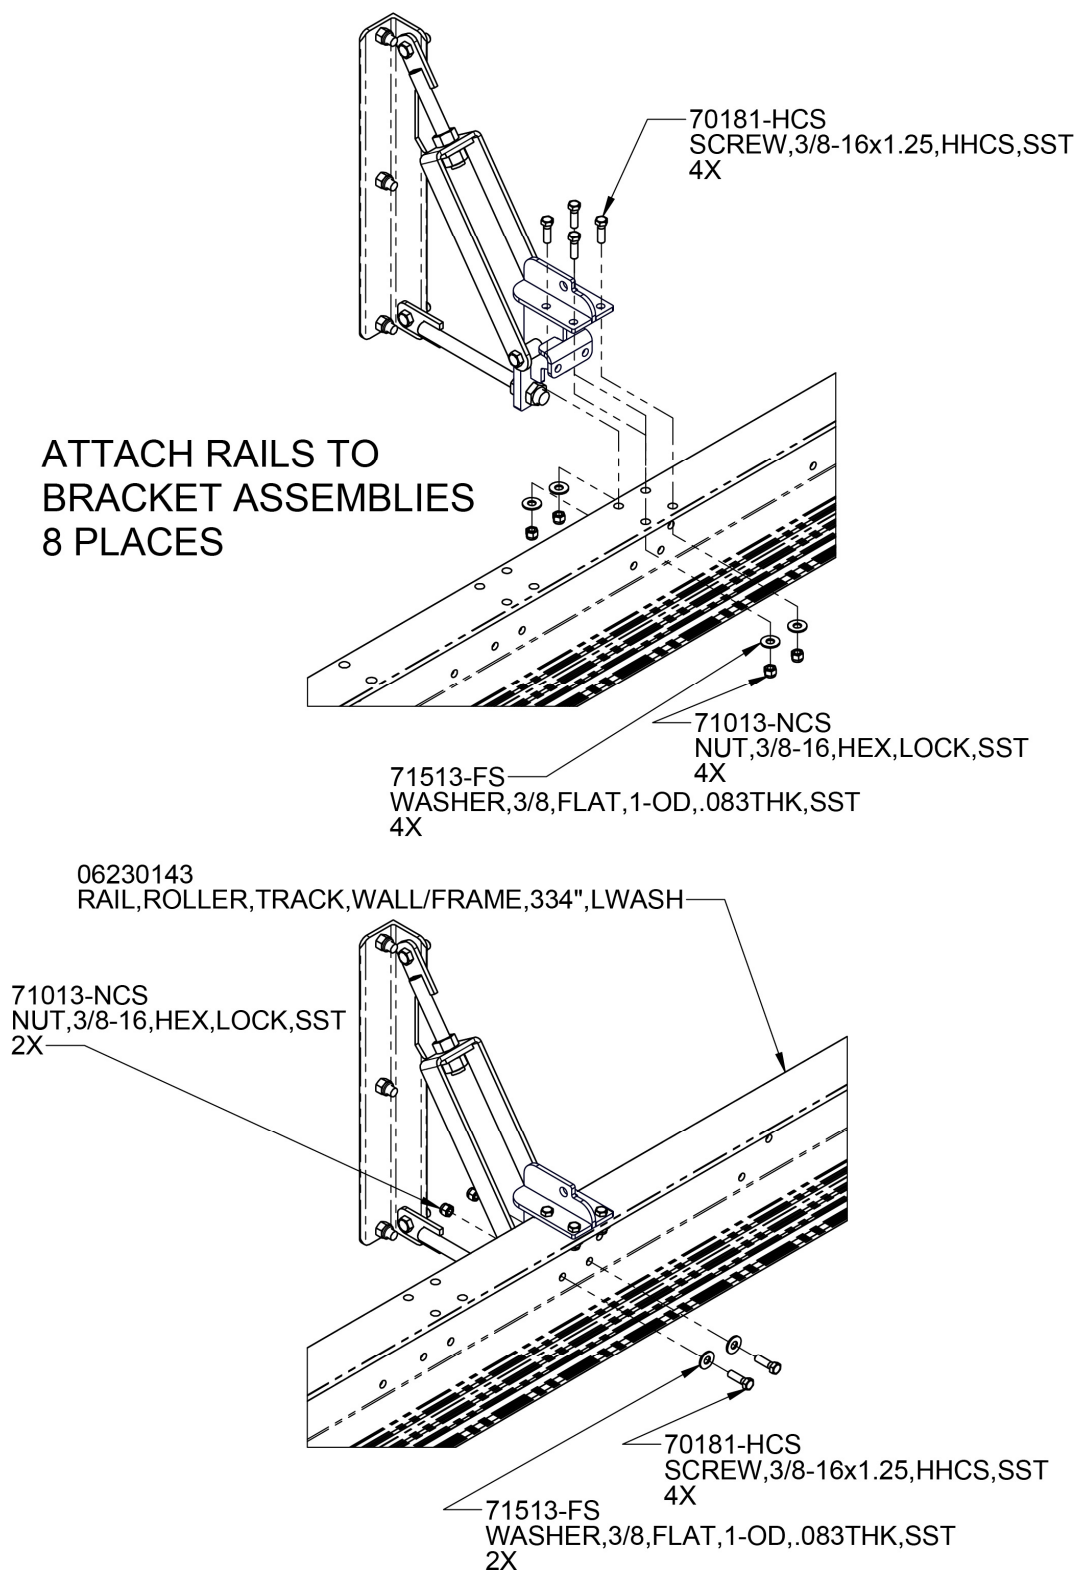

Figure 15- Attach Rails to Wall Brackets
- Refer to Figure 4 (standard width), Figure 5 (narrow width), and Figure 6 (wide width) for bracket assembly details and to Figure 15 for rail installation.
- Refer to Figure 15 for rail installation.